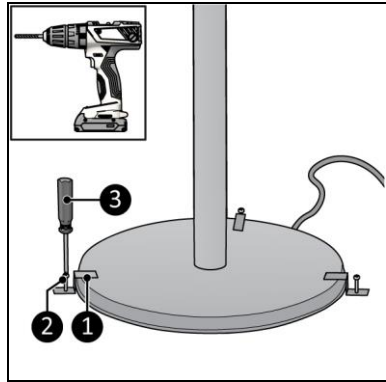

Figure 11
2. Place the three fixing brackets (Figure 11, pos. 1) on the base and over the hole.
3. Screw the brackets in place using three screws (Figure 11, pos. 2) and a Phillips screwdriver (Figure 11, pos. 3).